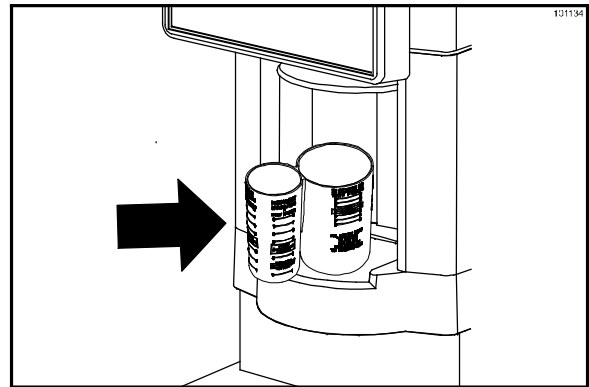

Figure 134
- Hold the large cylinder under the ice chute. Press the NEXT key to shave the ice. (See Figure 134.)